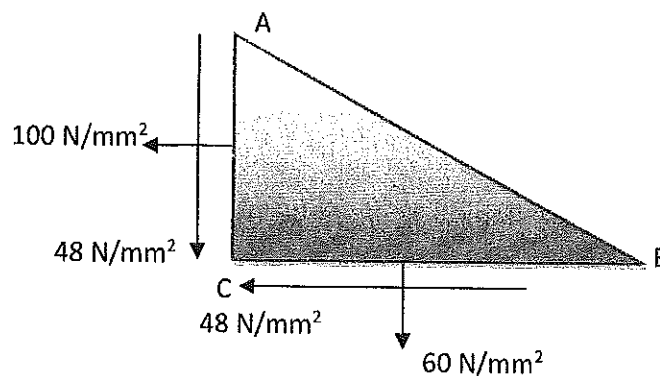

Fig.Q2
The stresses acting on three mutually perpendicular planes at a point in an elastic material are 100 N/mm^2 tensile and 48 N/mm^2 shear on plane AC, 60 N/mm^2 tensile and 48 N/mm^2 complementary shear on plane BC, and no stress on plane 3 as shown in Fig.Q2.
- i) Construct Mohr's circle according to the stresses given in Fig.Q2. (06 marks)